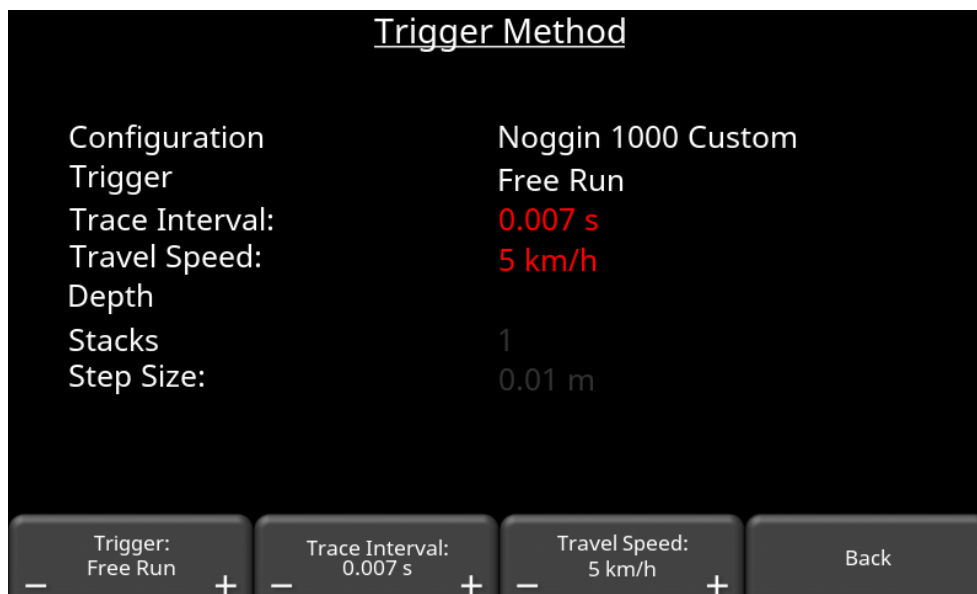
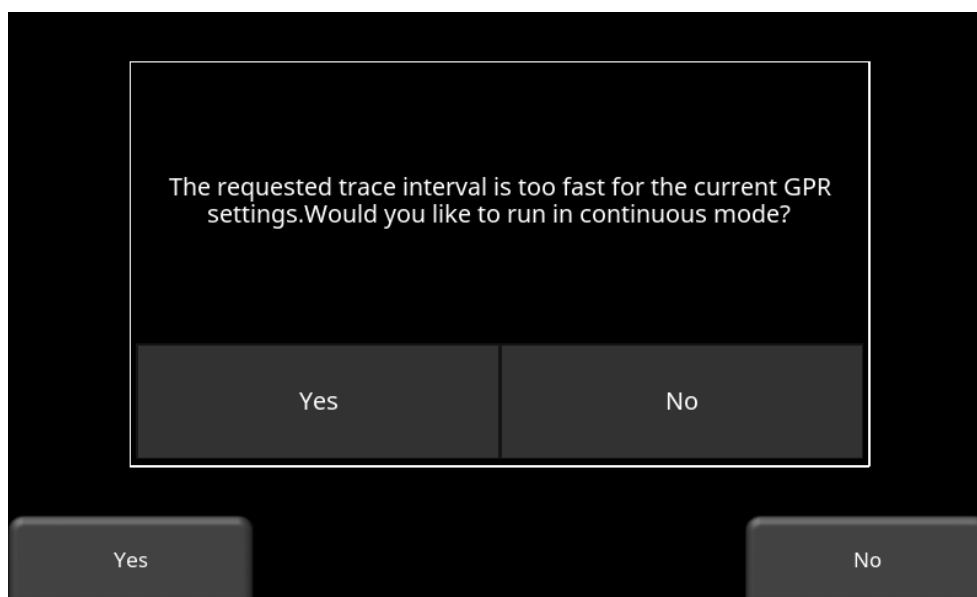

Figure 5-11: Trace interval and speed combination is not compatible, hence it's in red
Figure 5-12: If previous interval/speed combination is not changed, warning message appears when entering Line Scan
**Note:** If the trace interval and speed value are coloured in red, it means that it's too fast for the system to collect (Figure 5-11). When entering Line Scan mode, it will display a warning message that will only allow you to collect in continuous mode (Figure 5-12).